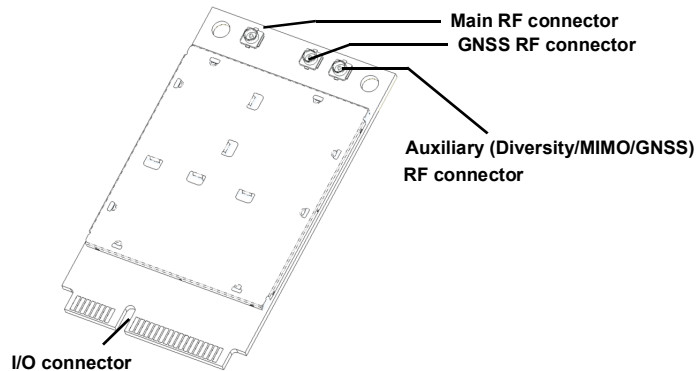

Figure 3-1: Module Connectors (Preliminary shield design, subject to change)
- Use Hirose U.FL connectors (3 mm x 3 mm, low profile; model U.FL #CL331-0471-0-10) to attach antennas to connection points on the module, as shown in Figure 3-1.
- Connect to system ground using the two mounting holes at the top of the module (shown in Figure 3-1).